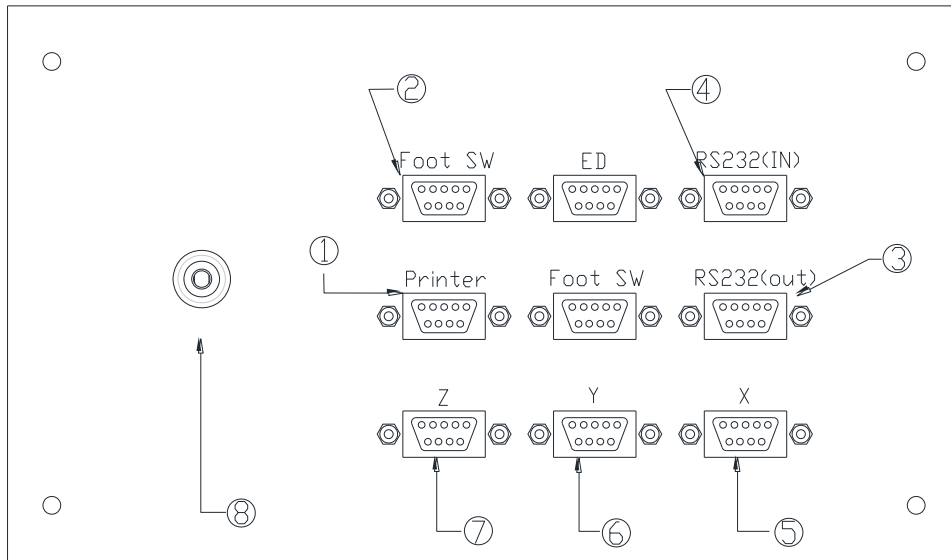

Fig 5 Signal Switch Panel
3.2.3 Signal Switch Panel (as Fig 5)
5.6.1 Figure 5 of the RS232 interface for counter and instruments, through the special software to achieve automatic measurement of counter and parts mapping function. Test reports and drawings can also be output with a printing device.